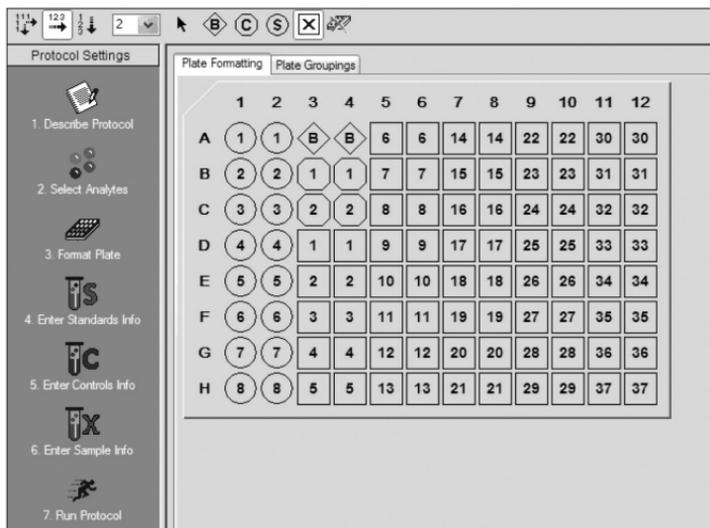

Fig. 4. Plate formatting.
3. Click **Format Plate** and format the plate according to the plate layout template (located on page 31) created for the assay. To modify the plate layout, follow the steps below (see Figure 4).
- b. Select the standards icon (S) and drag the cursor over all the wells that contain standards. Repeat this process for blanks (B), controls (C), and samples (X).